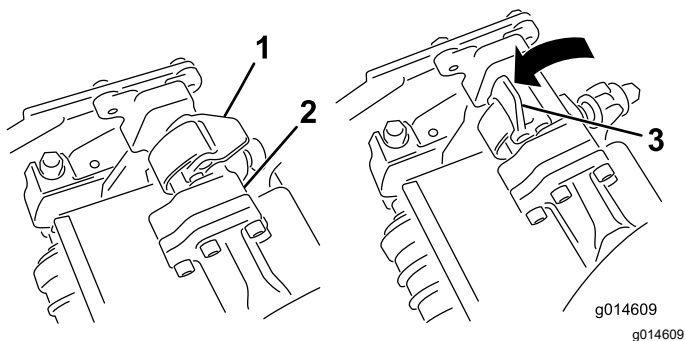
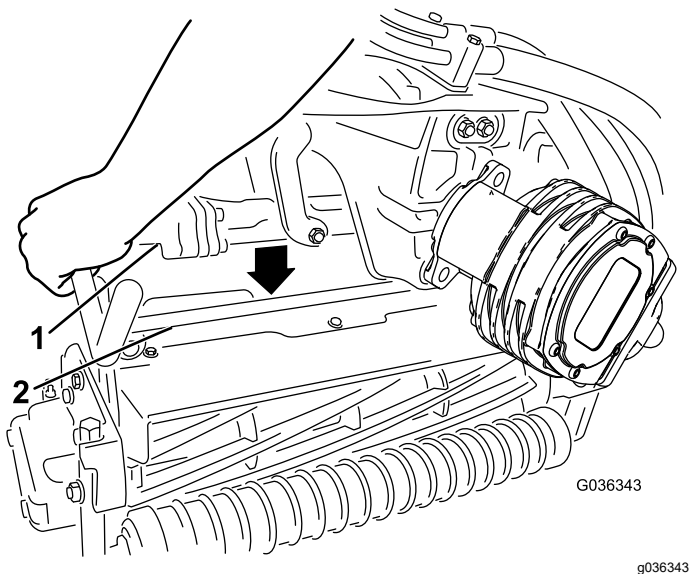

Figure 57
Figure 58
4. With the latches on the suspension-arm bar pointing up (i.e., open) (Figure 57), push the suspension arm down so that the bar fits over the bar across the top of the cutting unit (Figure 58).
5. Close the latches down and around the cutting-unit bar and lock them in place (Figure 57).
5. Open the latches on the suspension-arm bar of the cutting unit you are removing (Figure 57).